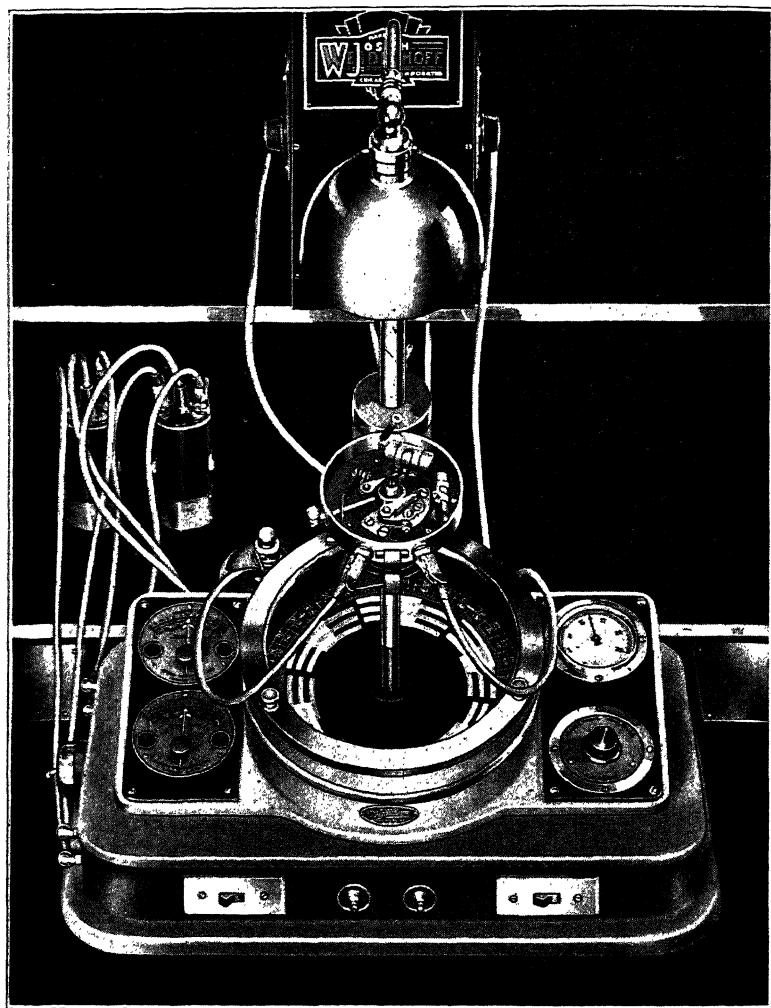

Fig. 36. Weidenhoff Oscillograph Ignition Analyzer
**Testing Distributor Heads.** Since all four-stroke cycle engines fire once for every two revolutions of the crank shaft it naturally follows that the rotor of the ignition head must rotate at one-half crank-shaft speed. The distributors on all four-stroke cycle engines are geared 2 to 1. Consequently a four-cylinder engine fires once for every 90 degrees of distributor travel, a six-cylinder engine fires once for every 60 degrees of distributor travel, and an eight-cylinder engine once for every 45 degrees. The rotary oscillograph scale, Fig. 36, is divided into 360 parts corresponding to 360 degrees of a circle. Dividing 360 degrees by the number of cylinders of an engine gives the number of distributor degrees between sparks.
**Mounting Ignition Distributor for Test.** The distributor to be tested is placed in the jaws of the clamp on the vertical post of the fixture, Fig. 36, being held in place by the wing nut on the side of the clamp. The clamp itself can be adjusted for various heights on the post, being locked in place by a thumb screw. Select the proper adapter to fit the bottom of the distributor shaft. The lower end of the adapter is connected to the upright shaft of the rotary oscillograph. A three-jaw chuck furnished with the fixture can also be mounted on the end of the shaft for driving distributor shafts on which the adapters cannot be used. In connecting the distributor shaft, Fig. 36, to the shaft of the fixture allow the assembly to "bottom" on the fixture shaft and then slightly raise the distributor clamp before tightening the thumb screw. This removes the weight from the fixture shaft.